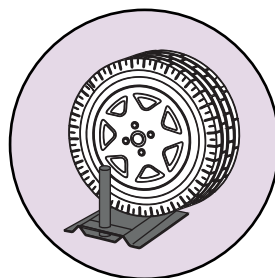

Fig 5.
5. Drive vehicle onto wedge (allow maximum clearance to avoid damage to vehicle). (see fig 5)